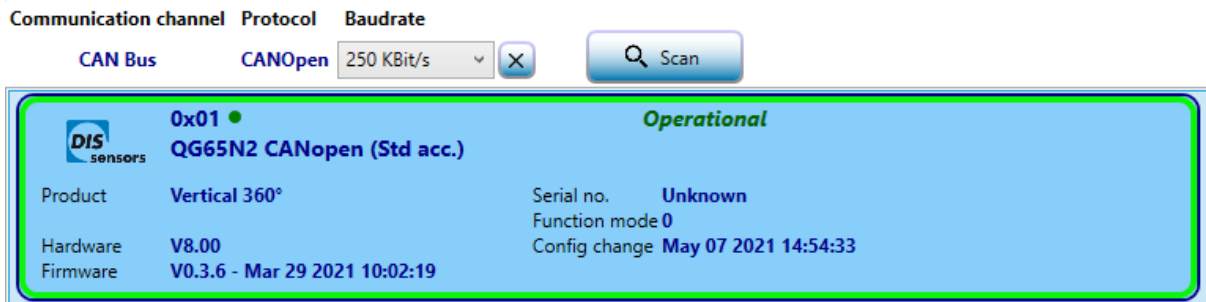

Figure 20 - Sensor detection
- **Sensor detection.** Click  , the software will scan the CAN bus and find the connected sensors. Basic information such as product name, serial number, etc. will be shown as in Figure 20.